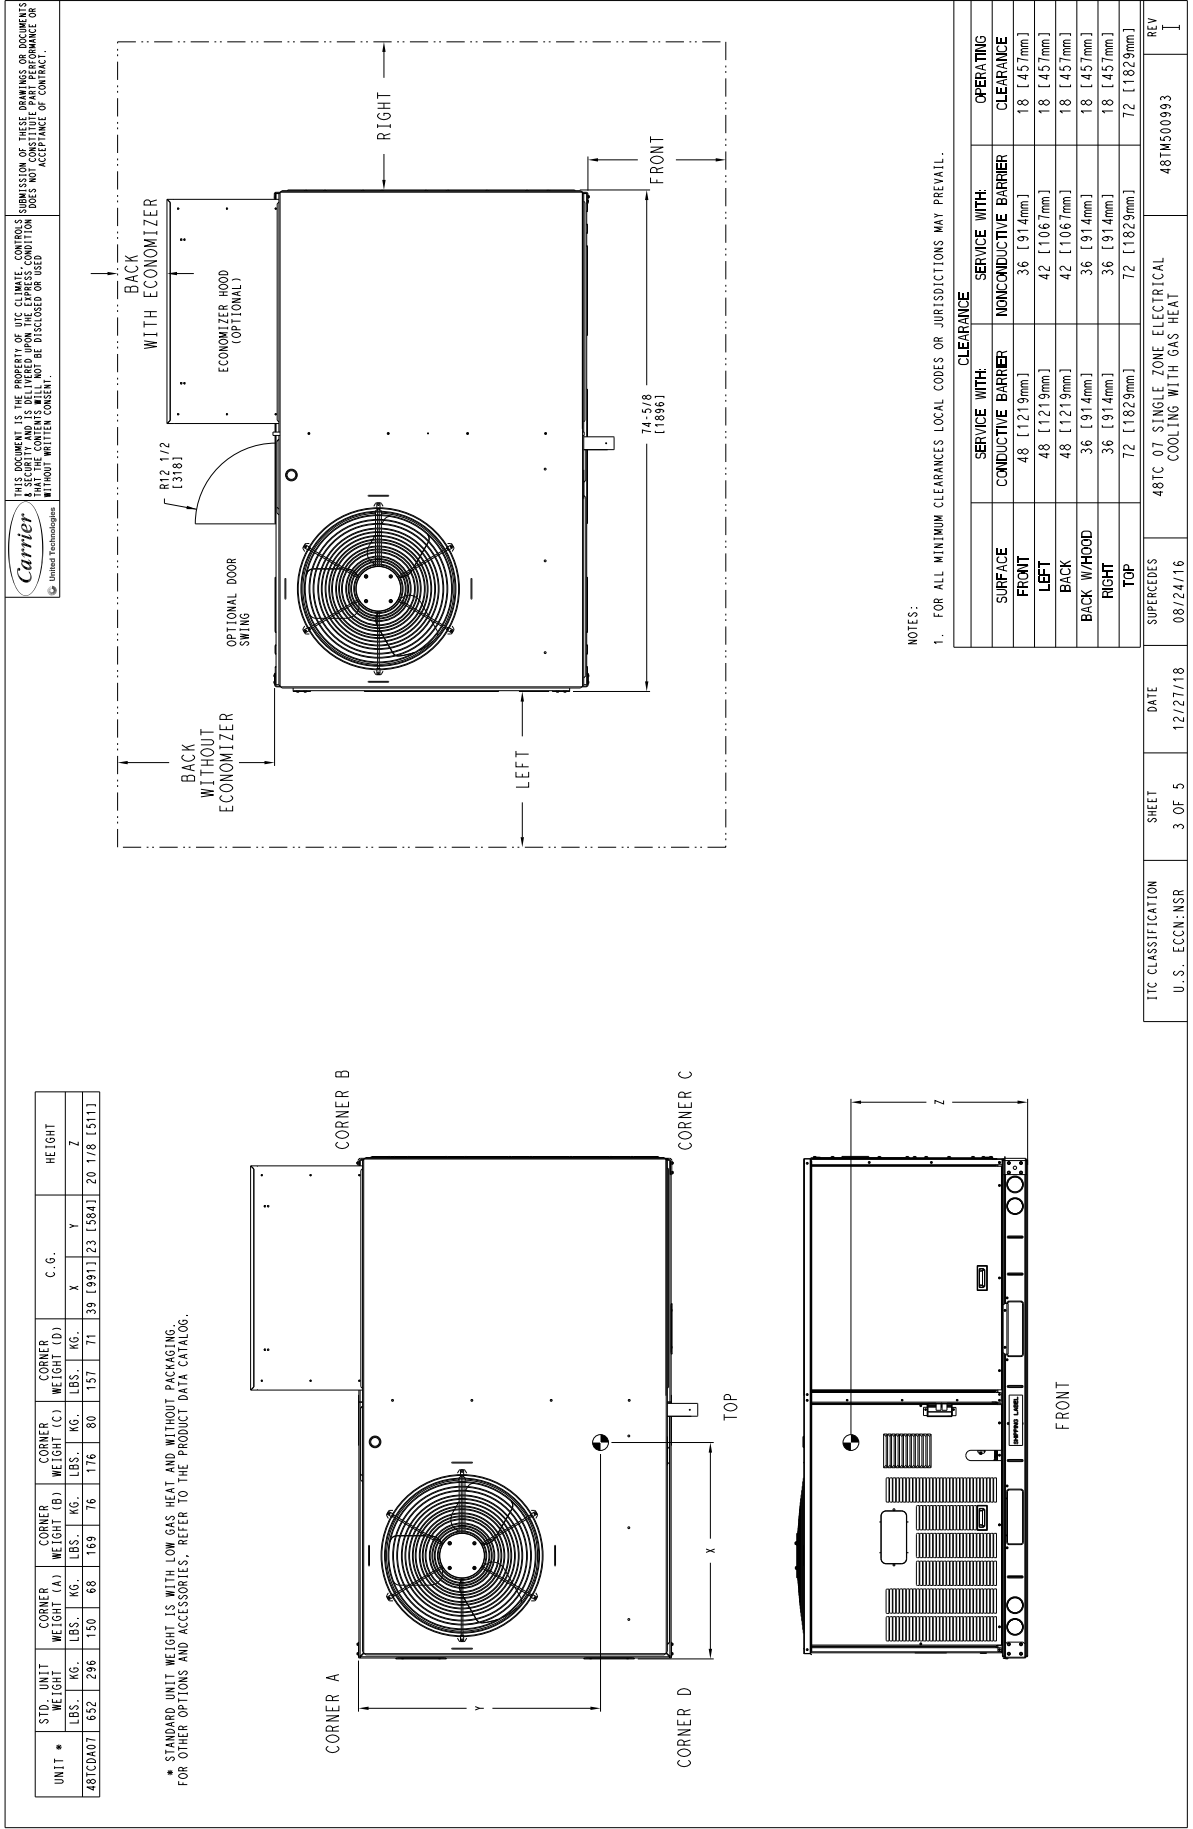

Fig. 4 — Unit Corner Weights and Clearances (Size 07)
- See Fig. 4 for service clearances in units size 07.